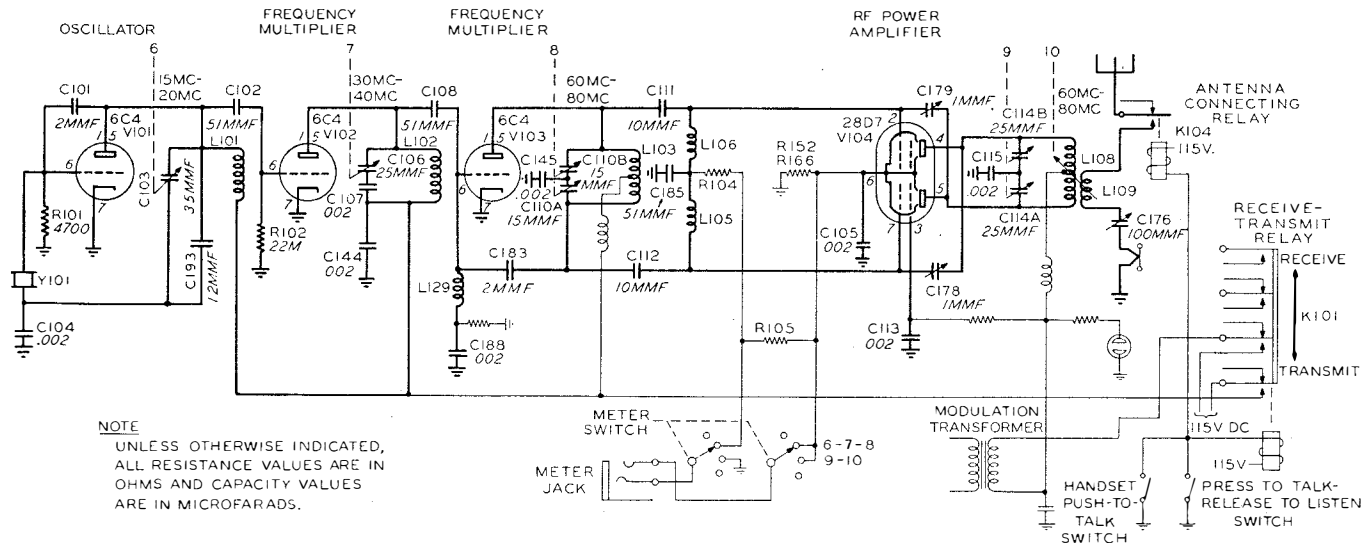

Figure 4-8—Transmitter RF Circuits
(1) OSCILLATOR CIRCUIT. (See figure 4-8.)—The crystal oscillator circuit output is in the frequency range 15 to 20 megacycles. The crystals used are of the third harmonic type. That is, the crystals have been so ground that a strong output may be obtained at the third harmonic of the frequency corresponding to the crystal thickness. The oscillator circuit used is of the regenerative type and provides maximum output at the third harmonic of the crystal frequency. The oscillator tube used is a Type 6C4 triode. The frequency of the oscillator output is determined by the crystal, the plate circuit being tuned to the third harmonic by capacitor C103. The frequency that is stamped on the crystal holder corresponds to this third harmonic and not to the frequency of the quartz crystal itself. The oscillator output is capacitively coupled to the grid of the first frequency multiplier tube, V102.
(2) FREQUENCY MULTIPLIER STAGES.—The first and second multiplier stages employ Type 6C4 triode tubes. The output frequency of each stage is twice the input frequency. Tuning is accomplished by varying capacitors C106 and C110A-B. Capacitor C106 is connected in the plate circuit of the first multiplier tube. Capacitor C110A-B is connected in the plate circuit of the second multiplier tube. Capacity coupling is employed in both mul-